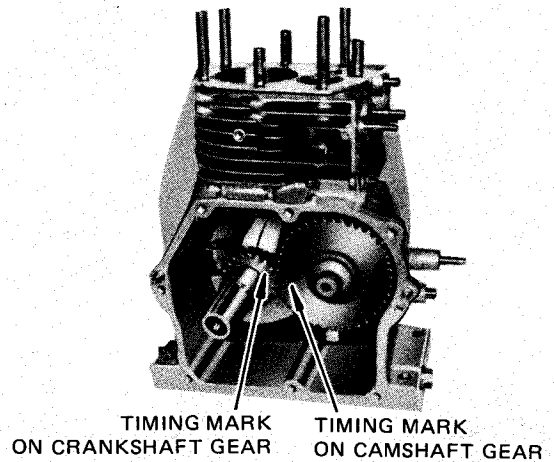

Fig. 5-3-11
- b) Align the timing mark at the root of a tooth of the cam gear with the one on the crank gear. If the valve timing is wrong, the engine cannot operate properly or at all. (See Fig. 5-3-11.)